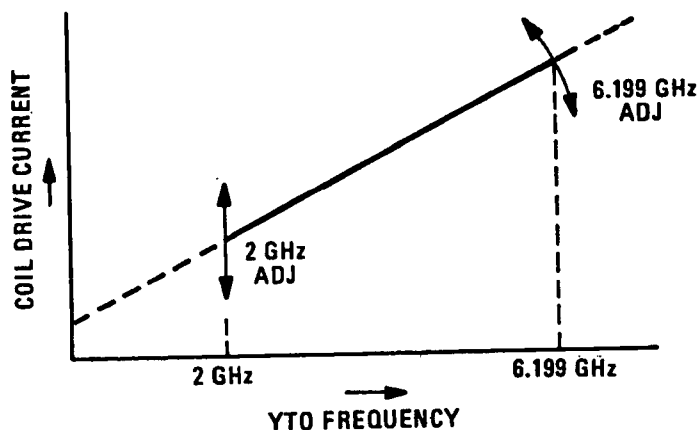

Figure 8-73. YTO Frequency vs. Coil Drive Current
**Input Amplifier.** The YTO Pretune Voltage is amplified by the Input Amplifier (a discrete component operational amplifier). The output voltage appears at the Coil Driver's non-inverting output and therefore across the Sense Resistor. A portion of this voltage is returned to the Input Amplifier's inverting input. This return voltage is adjustable to allow for variation in the frequency-to-voltage sensitivity of different Oscillators. See figure 8-73. RC network C4 and R10 provide compensation to prevent high frequency oscillation.